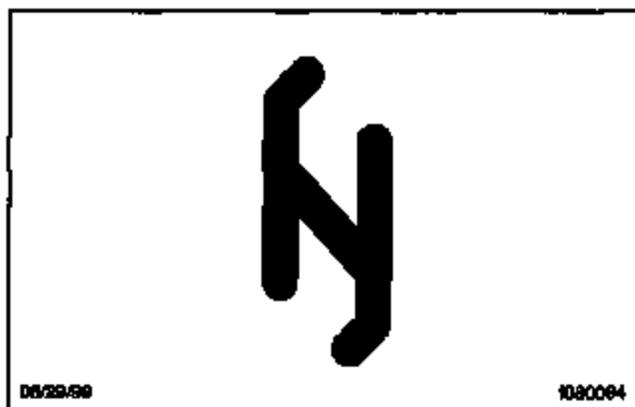

Fig. 4, Axle Retainer Marking (indicating magnetically inspected part)
15.3 If the lower axle retainer included in the Recall kit is the same part number that was originally installed on the vehicle, confirm that the part included in the Recall kit contains the identifying mark shown in Fig. 4 on one of the ears before installing. This will ensure that the manufacturer magnetically inspected it before shipping.